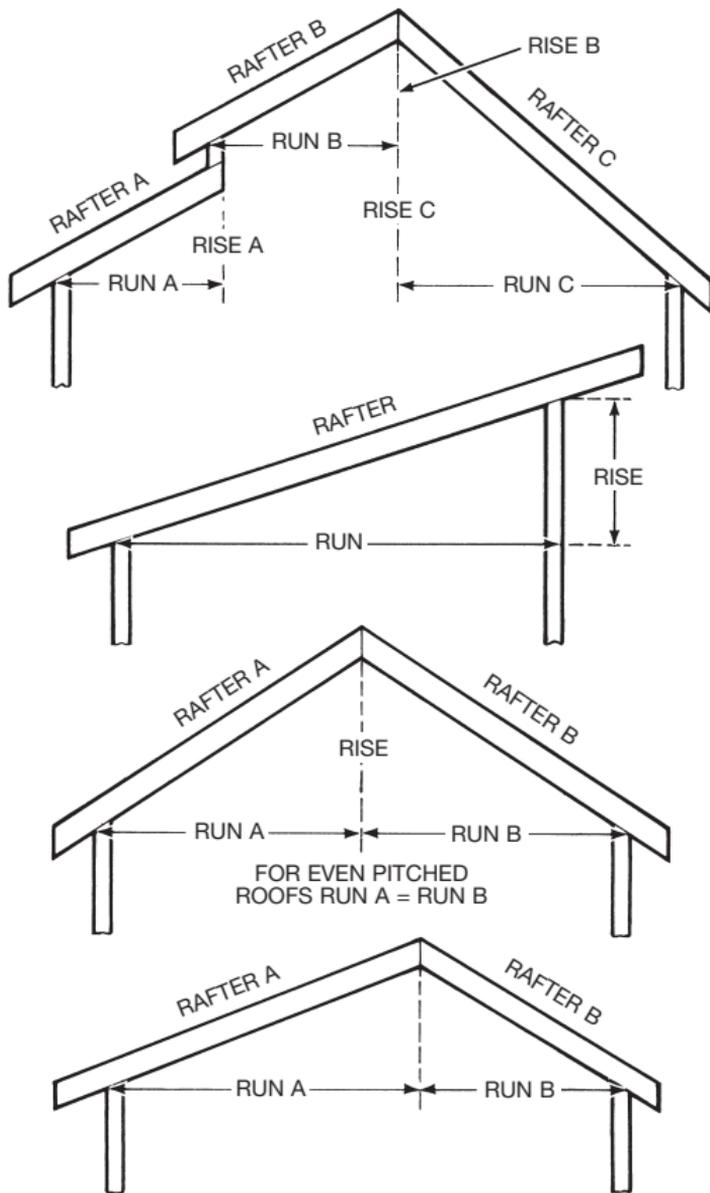

FIG. 2 Rafter Runs and Rises for Different Style Roofs.
The use of our square for rafter layout is based on two simple and common building measurements: (1) the rafter run, and (2) the rafter rise. These are available from either the building blueprints, drawings, or actual measurements. The tables included in the back of this book are also based on these two simple measurements (see Figures 2 and 3, and also the tables starting on page 36).
STEP 2. OBTAIN ROOF RISE: Find the distance you wish the roof ridge to be above the wall (in feet) by measuring, calculating or obtaining it from the blueprints (see Figure 2).